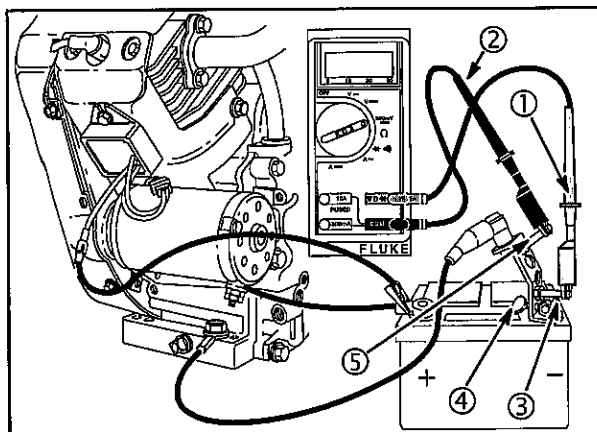

Fig. 28
The DC shunt **MUST** be installed to the **NEGATIVE (-)** terminal of the battery, Fig. 28. All connections must be clean and tight to obtain accurate readings.
3. Insert RED test lead (1) into **VΩ** receptacle in meter. Connect to RED post terminal (3) on shunt, Fig. 28.
4. Insert BLACK test lead (2) into **COM** receptacle in meter and connect to BLACK post terminal (5) on shunt.